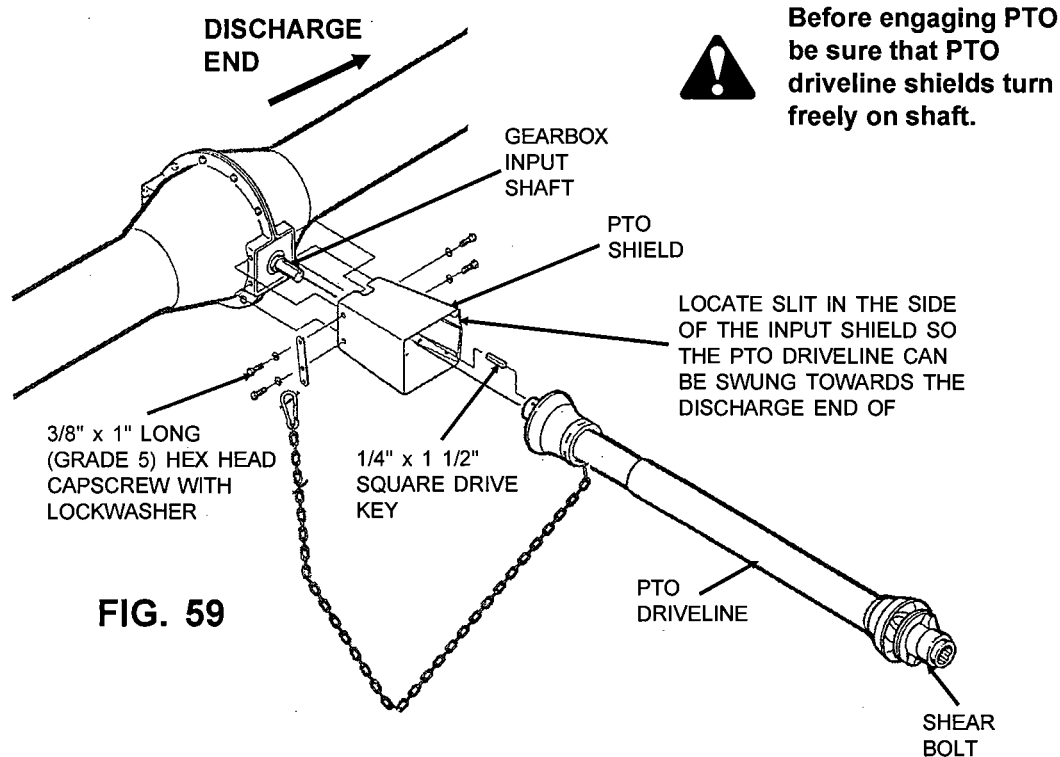
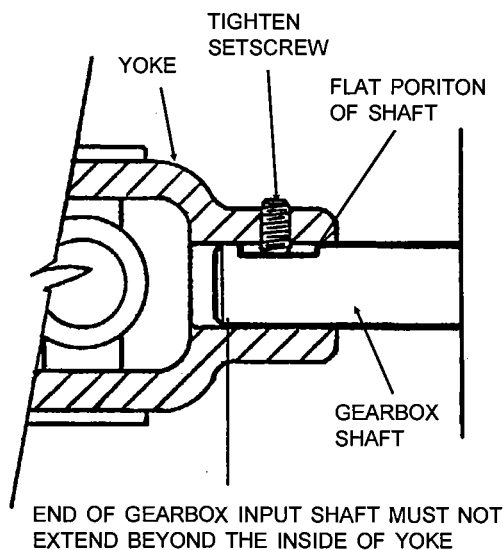

FIG. 59
FIG. 60
Step 1. Attach PTO driveline to gearbox input shaft by using 1/4" x 1-1/2" long square drive key. See Fig. 59. Place setscrews properly, then tighten. See Fig. 60.
IMPORTANT: For setscrew to be properly engaged on the gearbox input shaft, the gearbox input shaft **MUST** be slid into the PTO driveline yoke until the setscrew will sit on flat portion of shaft. (See Fig. 60.) Do not extend the gearbox input shaft beyond the inside end of the yoke.
Step 3. Slide input shield over the PTO driveline and fasten to the drive housing using two 3/8" x 1" long (grade 5) hex head capscrews with lockwashers. See Fig. 59 on page 44.
Step 7. Install the input shield to cover the PTO driveline to gearbox shaft connection. See Fig. 59 on page 44.